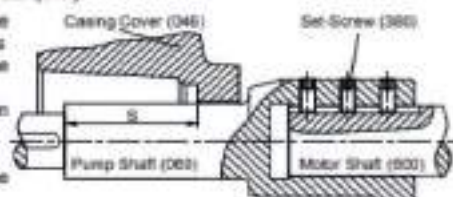

Fig. 8
- Place the motor (600) vertical as the shaft end comes to the upper side.
- Assemble the motor pedestal (012) to the motor (600).
- Slip the pump shaft (060) onto the motor shaft.
- Place the stuffing box cover (046) onto the motor pedestal (012)
• Make the alignment of the pump shaft's location to provide the length as per the length "S" given in **section L**. ("S" is the distance between the shaft shoulder and the end of the mechanical seal chamber. See Fig. 8). Tighten the set-screws (for the shaft consists of 3 set-screws starting from the one in the middle and for the shaft consists of 2 set-screws start from the one near the motor).
- Slip the rotating part of the mechanical seal onto the pump shaft (060) and place the spacer sleeve (057).
- Place the impeller key (210) into keyway, slide the impeller (050) onto the shaft (060) and screw the impeller nuts (065).
- Assemble the volute casing (001).